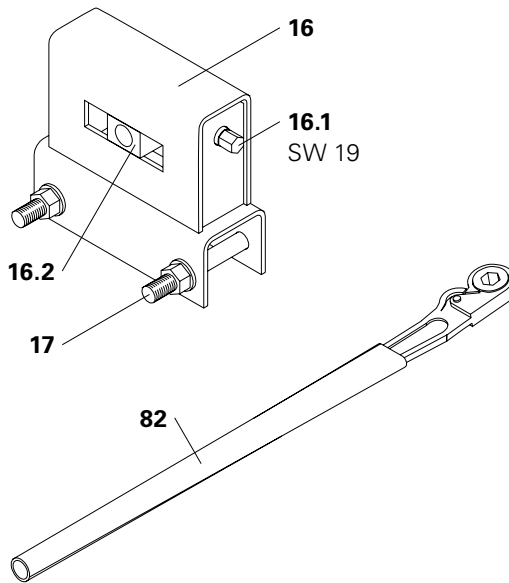

Fig. B3.01
- Adjusting Unit CB 160 (16)
- Bolt ISO 4014 M20 x 150-8.8 (17)
- Ratchet Lever SW 19 (82)
- (Fig. B3.01)